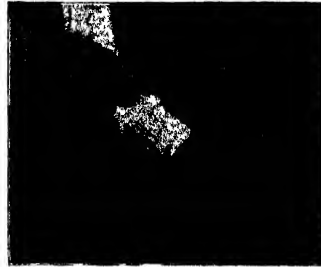

Fig. 165. Using a Nailset
*Nailsets*, Fig. 165, are made with hardened points, but softer butts, so that the hammer will not be injured. They were formerly made square when nail heads were square, but now round ones are common. To obviate slipping, some have "cup points," that is, with a concave tip, and some spur points.